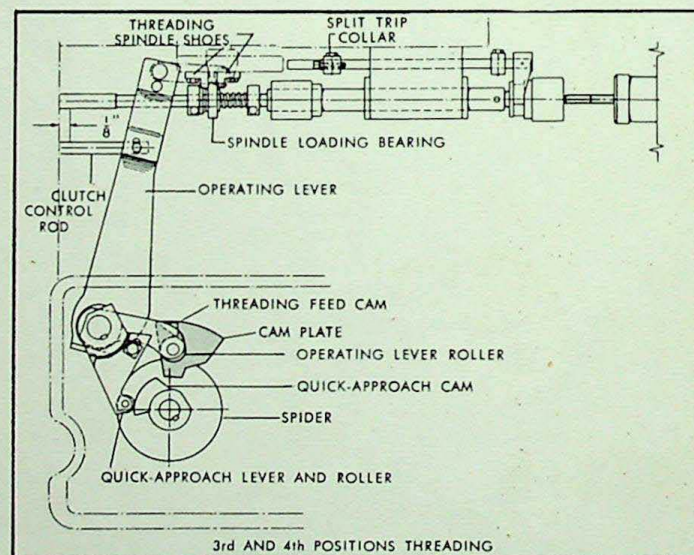

FIGURE 1
4. Position the cam plate on the spider so that the operating lever roller is on the high point of the feed cam. (Fig. 1).
5. Make a pencil mark on the clutch control rod $\frac{1}{8}$ " from the gear box cover. (Fig. 1).
7. Push the threading spindle forward by hand until the tap or die head touches the area to be threaded (Fig. 1).
8. Set front and rear threading spindle shoes against the spindle loading bearing and tighten in place. (Fig. 1).
11. Crank forward until the die head or tap touches the area to be threaded. If you are threading with a die head, set the split-trip collar away from the threading spindle bracket a distance equal to the length of threads desired. (The split-trip collar determines the point at which the die head opens). (Fig. 1).